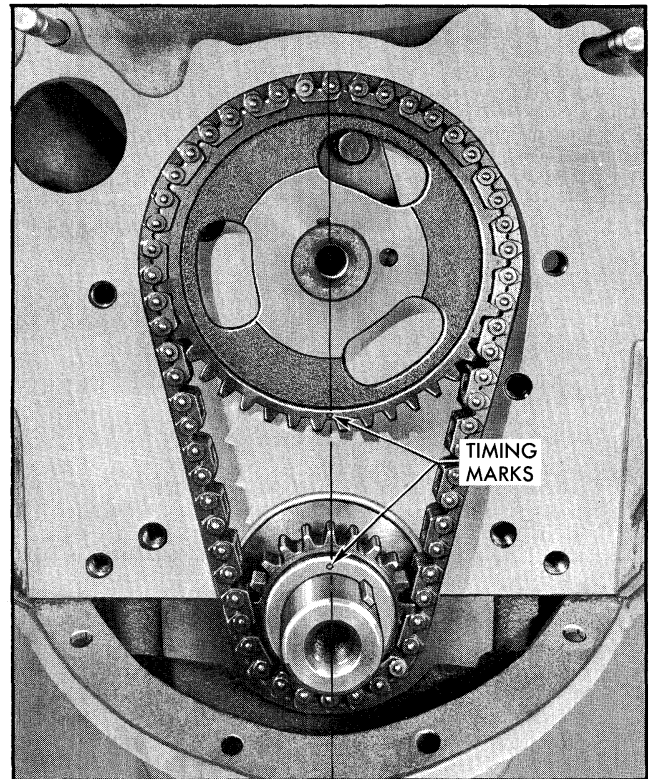

Fig. 6-120 Aligning Timing Marks
3. Align timing marks to simplify proper positioning of sprockets during reassembly (Fig. 6-120).
5. Install new timing chain and/or sprockets making sure marks on timing sprockets are aligned exactly on a straight line passing through the shaft centers (Fig. 6-120). Camshaft should extend through sprocket so that hole in fuel pump eccentric will locate on shaft.
3. Install timing chain sprockets and timing chain, making sure marks on sprockets are aligned properly (Fig. 6-120).